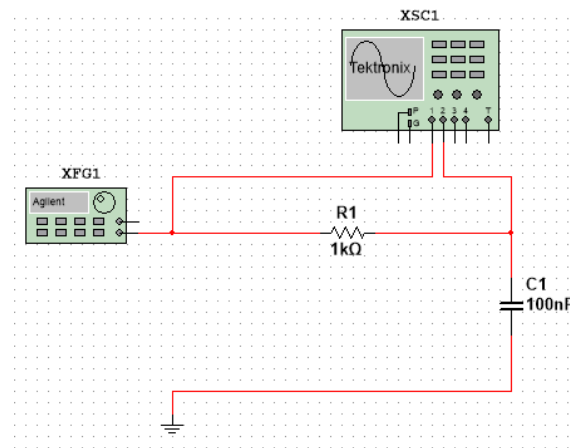

Figure 8. RC circuit with oscilloscope and function generator.
3. Connect the bottom lead to the resistor (Figure 8).